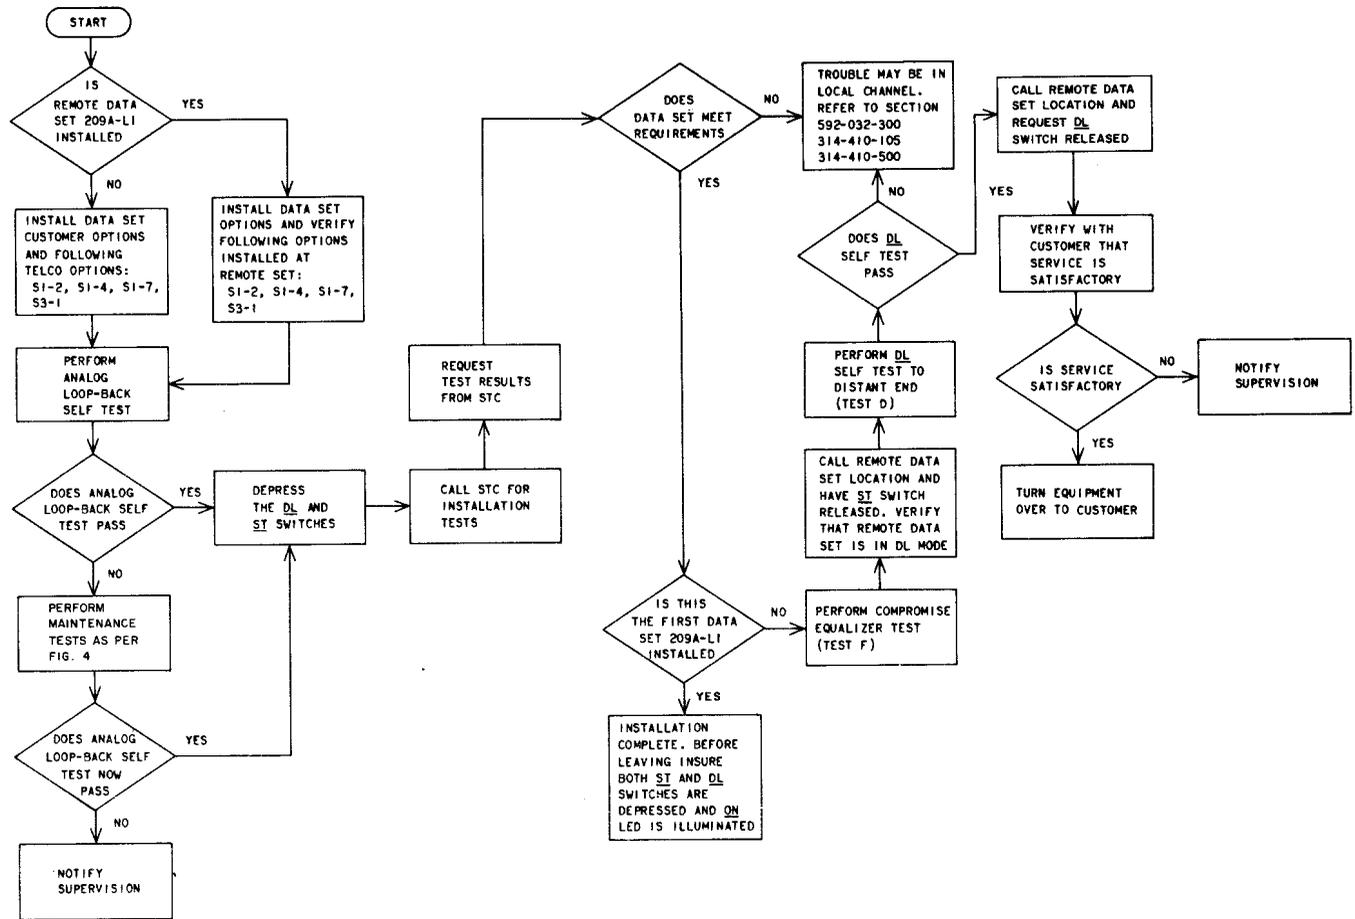

Fig. 1—Installation Testing Flowchart
3.02 Refer to Fig. 1 for the sequence of tests to be performed and to Part 5 for test procedures.